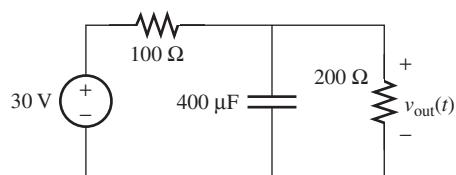

FIGURE P5.32 Circuit for Problem 5.32.
- 5.32 (H)*** Find the expression of $v_{\text{out}}(t)$ in Figure P5.32.